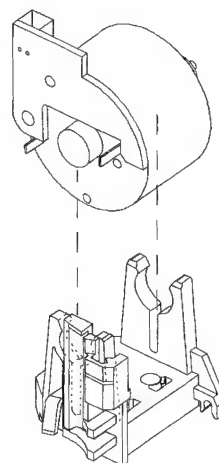

Fig. 11
- Remove the threading motor from the motor supports (Fig. 11).